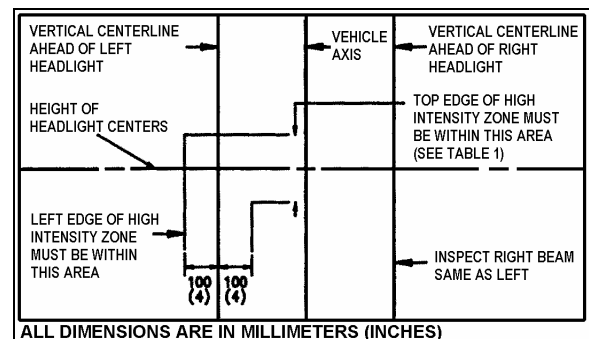

FIGURE 33: AIM INSPECTION LIMITS FOR LOWER-BEAM HEADLIGHTS 06506
8. The inspection limits in the vertical direction for low-beam headlights or the low beam of a dual-beam headlight, shall be as described in Table 1. In the horizontal direction, the left edge of the high-intensity zone shall be located from 10 cm (4 in) left to 10 cm (4 in) right of the vertical centerline of the beam. The viewing screen shall be located 7.6 m (25 ft) in front of the vehicle (Fig. 33).